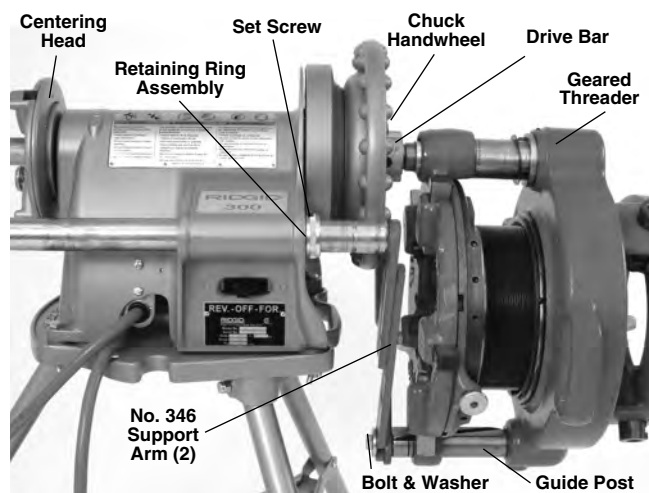

Figure 14 – Model 161 Geared Threader Close-Coupled to Power Drive
- Model 161** – Remove setscrew (plug) from threader guide post. Place the 346 support arms inside the ends of the Power Drive support bars. Pull out the Power Drive support bars so the ends of 346 support arms align with the end of 161 Threader guide post and retain with bolt and washer. Tighten the retaining ring assemblies on the Power Drive support bars to hold in place (Figure 14).